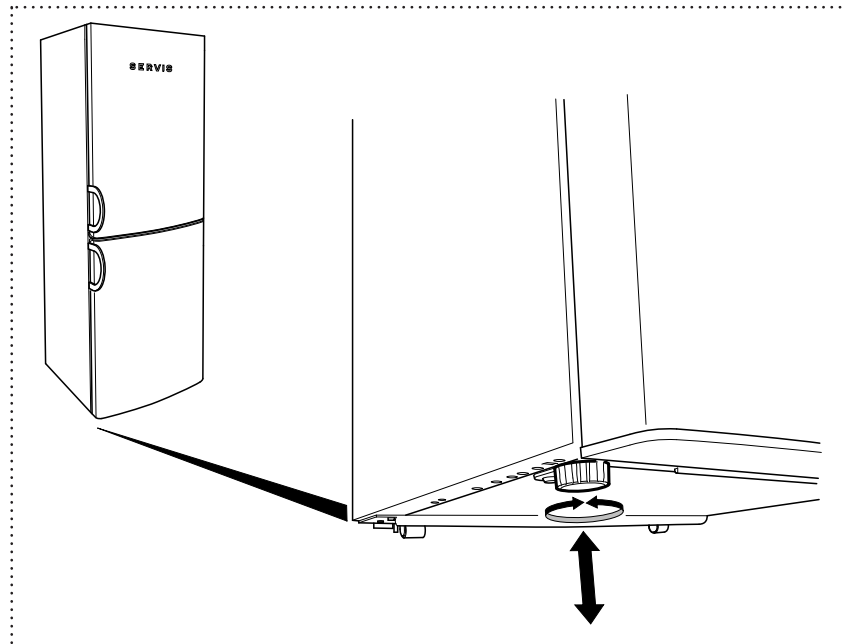

Figure 5
- 1 To increase the height of the Fridge Freezer, turn the feet clockwise (Figure 5).
- 2 To decrease the height of the Fridge Freezer, turn the feet anti-clockwise (Figure 5).